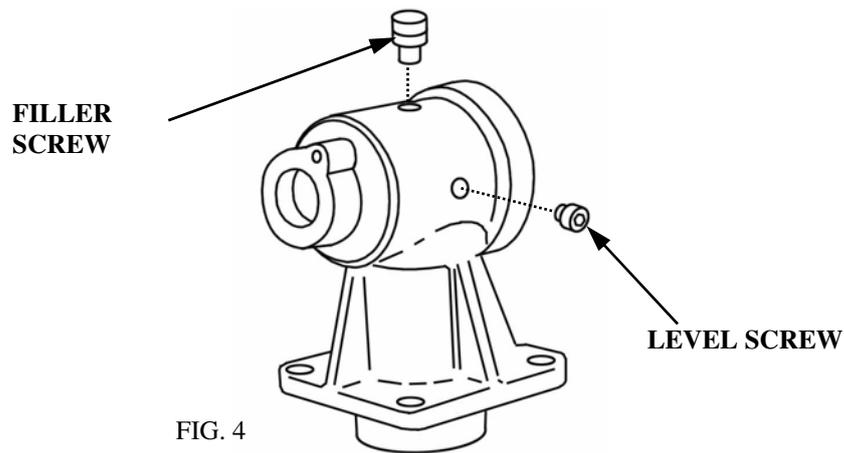

FIG. 4
- Check gearbox correct oil level. To proceed, remove the oil level screw (see fig. 4). If needed to add oil, remove the filler screw located on top of the box, and fill in until oil starts running out of the level hole.